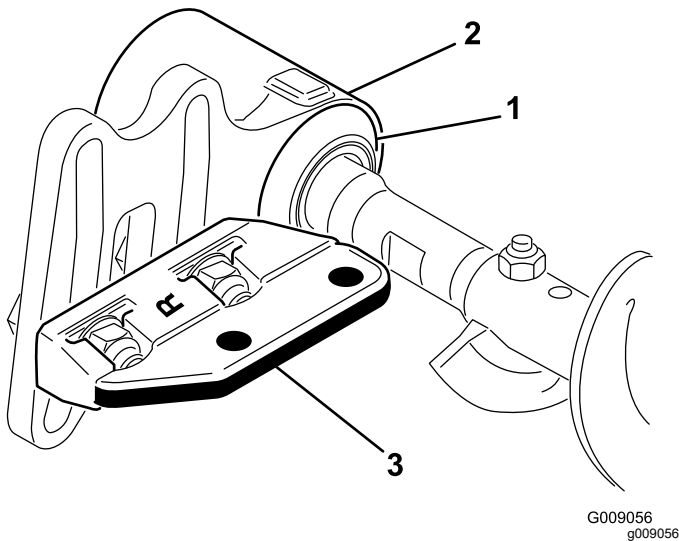

Figure 10
9. Slide each excluder seal outward until the lip seals are in light contact with each bearing housing (Figure 10).